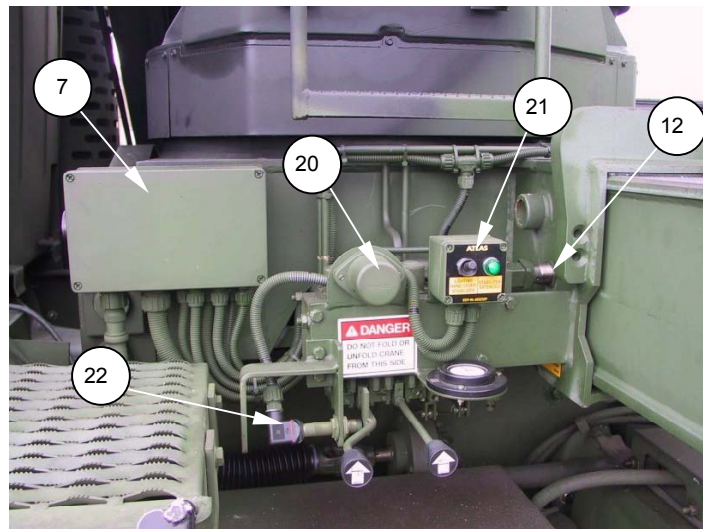

Figure 3 CRANE ELECTRICAL COMPONENT LOCATIONS VIEW B
**Table 3 for Figure 3 View B**